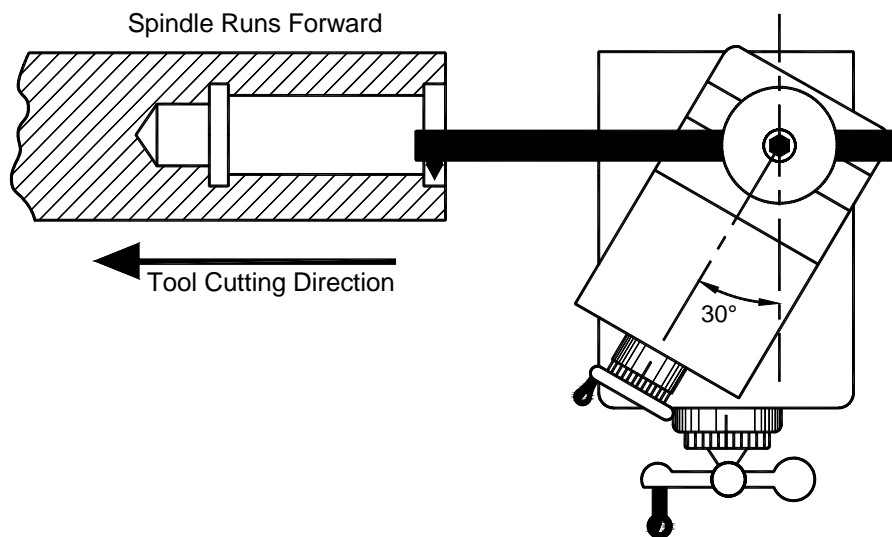

Figure 7-149. Setup for cutting internal threads starting from the outside of the work.
5. Threading may be done either starting from the outside of the work, Figure 7-149, or from the inside, Figure 7-150. Starting threading from the inside of the work eliminates the problem of not being able to see the internal end of the threads so you know when to open the half-nuts. This method is only suitable on lathes with a long-taper or cam-lock spindle nose which will not unscrew from the spindle when run in reverse under load. Select one of these methods, then install the boring bar (or single-piece tool bit) with the properly shaped cutting bit in the tool holder, and set the compound at an angle of 30° to the work axis.